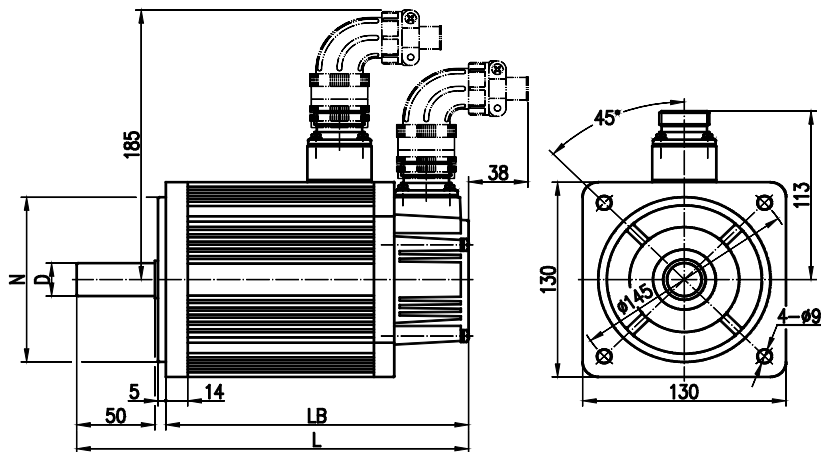

Fig. 2-3
- Outline installation dimension and connection of 130SJT series motor referred to Fig.2-3,Table2-3.